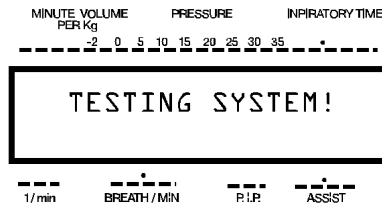

Fig.1
4. While still holding your thumb over the sampling elbow, place the Power switch into the "I" or "On" position. The A.D.S. 2000 will now perform a self-test. This will be indicated by the LCD display as shown in Figure 1. Continue to hold your thumb over the end of the sampling elbow until this test is complete.